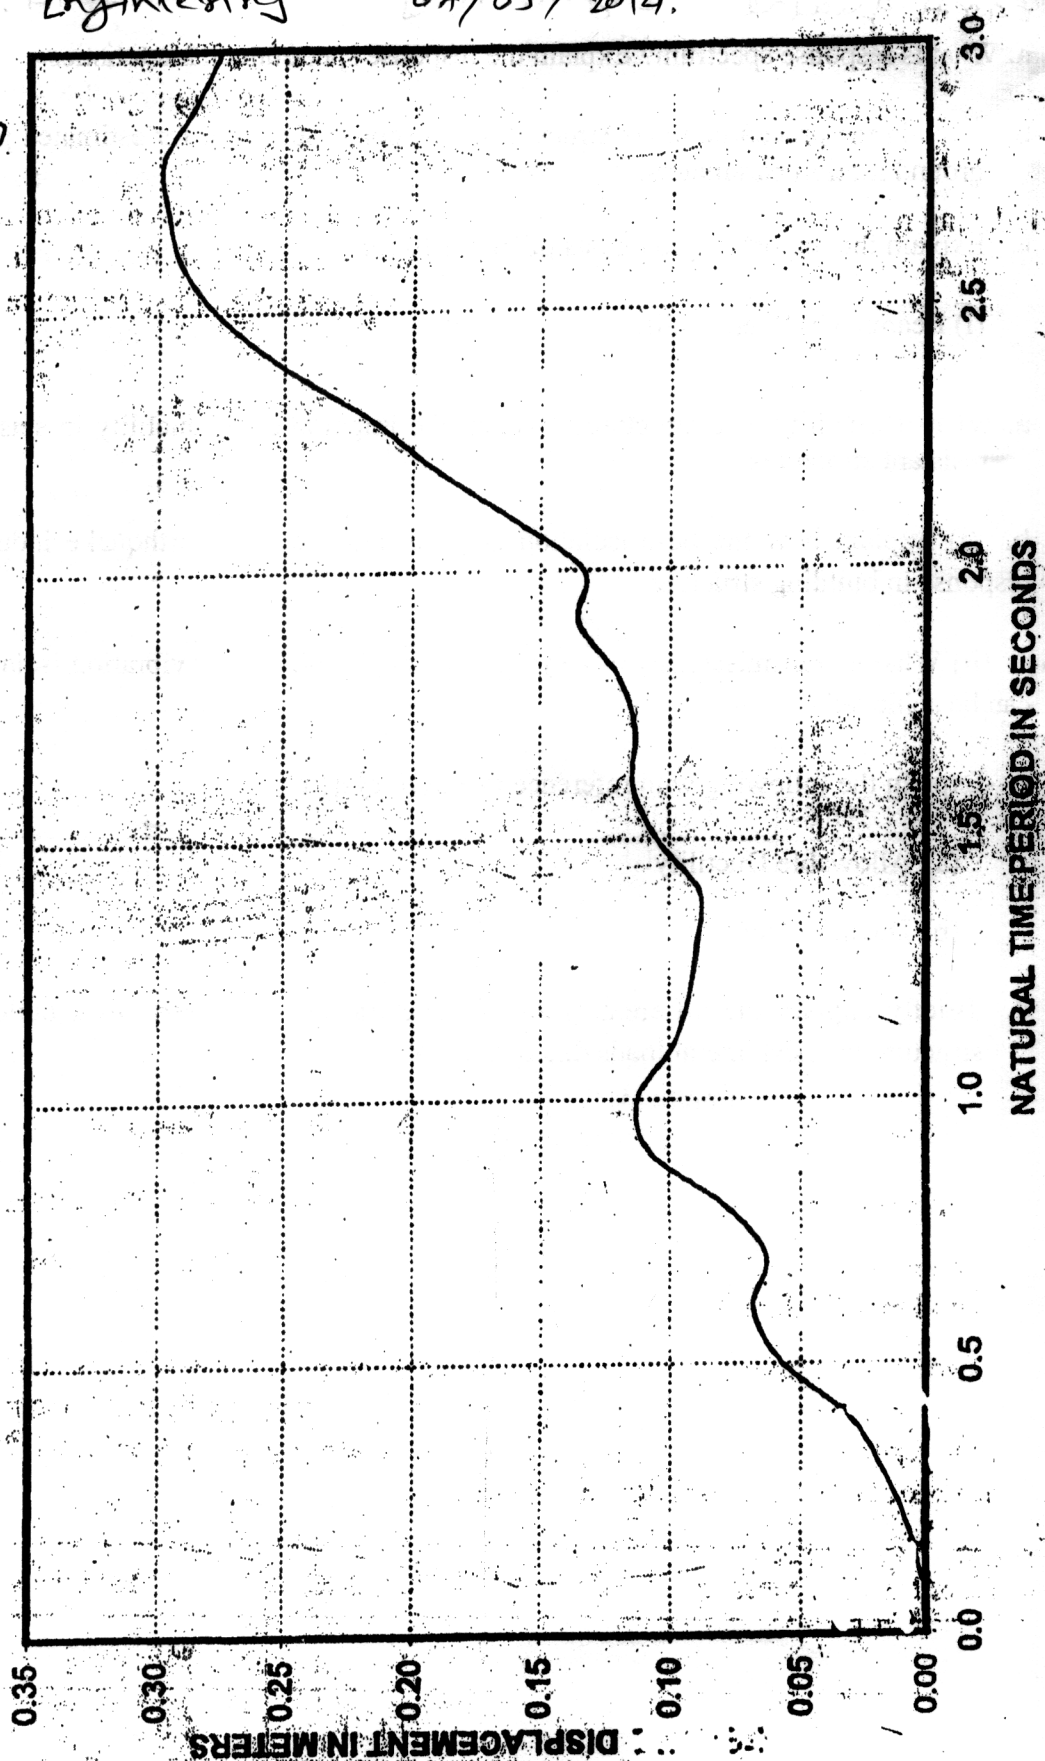

Figure 1. QNO. 2 (a), QNO. 3 & QNO. 4
- Q.2 a. (i) A single storey frame with rigid girder as shown in figure below is to be designed for ground motion, the response spectrum of which is shown in figure 1. Determine the design value of lateral deformation and bending moments in the columns. 4
- As a special case, if $e = 0$, and the system is subjected to the ground motion only in Y direction, the response spectrum of which is shown in figure 1. Determine the design value of lateral deformation, base shear and bending moment for the system.
- Q.4 A three storey frame with free vibration characteristics as given below is subjected to a ground motion characterized by the design spectrum given in the figure 1 but scaled to peak ground acceleration of $0.4g$. Calculate the design values of lateral deformation of floors. 20
M.E(C) with Str-Engg Sem II Earthquake Engg, 19/6/14
Q.2 a. (i) A single storey frame with rigid girder as shown in figure below is to be designed for ground motion, the response spectrum of which is shown in figure 1. Determine the design value of lateral deformation and bending moments in the columns.
c. A two storey frame has the following free vibration characteristics. The frame is to be designed for the ground motion characterized by the design spectrum given in the figure 1 but scaled to peak ground acceleration of 0.4g. Calculate the design values of lateral deformation of floors.
- As a special case, if $e = 0$, and the system is subjected to the ground motion only in Y direction, the response spectrum of which is shown in figure 1. determine the design value of lateral deformation, base shear and bending moment for the system.